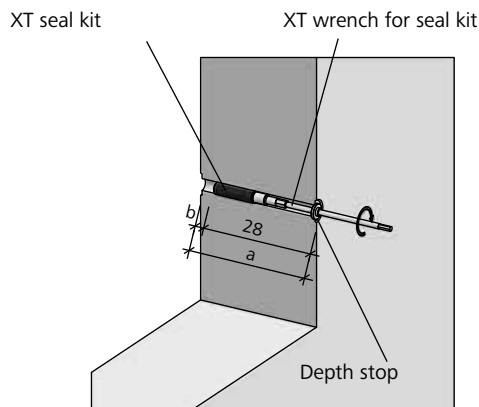

Fig. 79.3
3. Insert the XT taper tie seal kit with XT wrench for seal kit into the tie hole from the final-formwork side (large tie hole diameter) up to the stop and tighten it to 14 Nm (Fig. 79.3). We recommend the use of a torque wrench.
The depth stop must be attached at 28 cm (including XT seal kit) (Fig. 79.3).